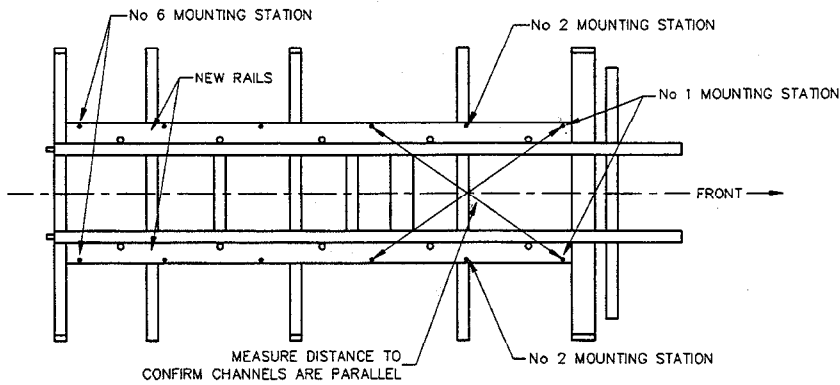

Figure 3 - Position of Channels
- m. Check to ensure diagonal relationships between rail holes are within +/- 1.5 mm, as shown in Figure 3.
The six 'D' shaped cup washers (Item 5 from Table 3) are fitted at stations where the mounting bolt is close to the upright posts, usually posts 1, 2 and 6, as shown in Figures 3 and 5.